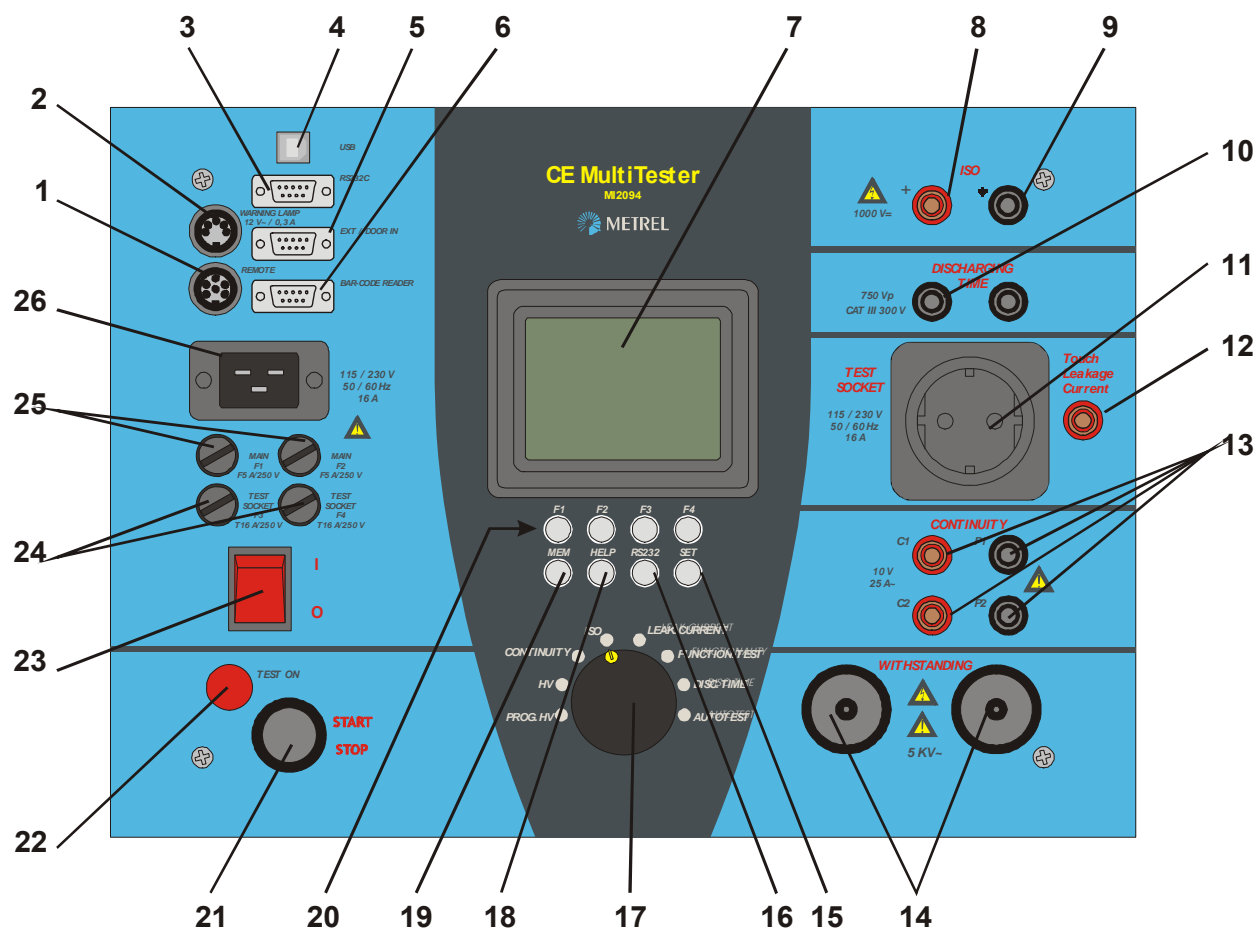

Fig.1. Front panel layout
<p>Withstanding section</p> 	<p>Dangerous voltage may be present. Switch off the instrument immediately if the red warning lamp (fig. 1., pos. 22) does not light after switching on HV generator, and service the instrument. Always handle as the test leads are energized.</p>
<p>Function test section</p> 	<p>Dangerous voltage is present on the TEST SOCKET (fig.1, pos.11) after pressing the START/STOP push button.</p>